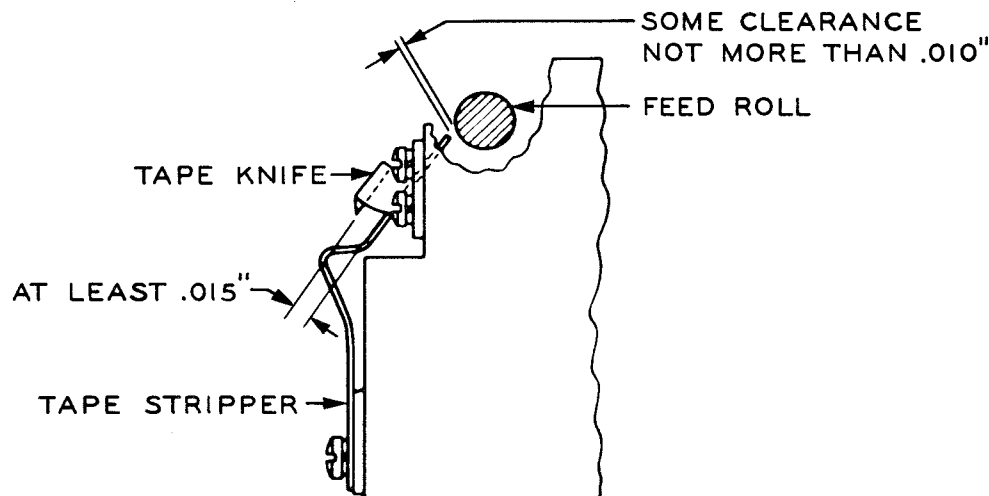

Figure 21
To Adjust: Position the stripper plate. See Figure 21.
2.42 The Tape Knife should be approximately horizontal. There should be a clearance as specified in the figure between the tape knife and the tape stripper at their closest point. See Figure 21.